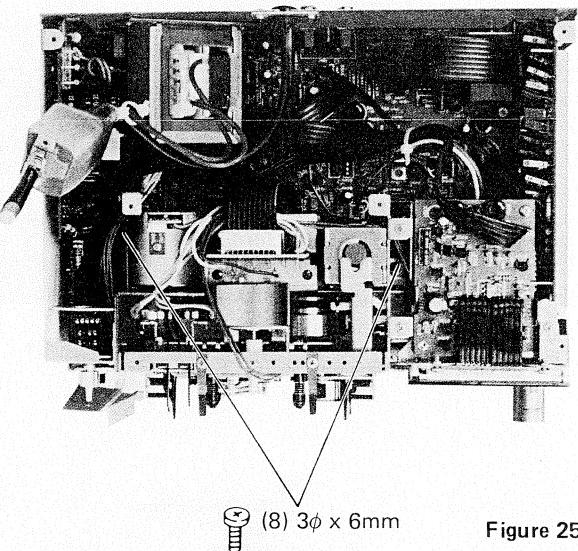

Figure 25
5. Remove two screws (8) ($3\phi \times 6mm$) holding Mechanism Assembly and bottom plate as shown in Figure 25.